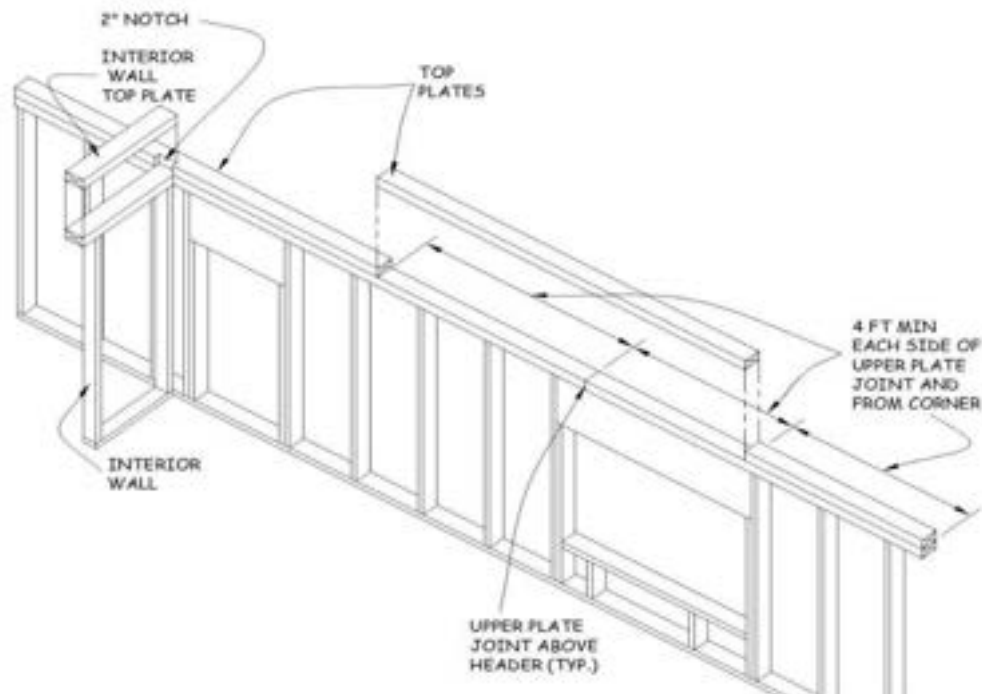

Figure 5-7. Exterior Wall Top Plate Installation.
2. The top plate on all bearing walls must extend a minimum of 4’ on each side of the wall plate joint, and at each corner (see Figure 5-7).